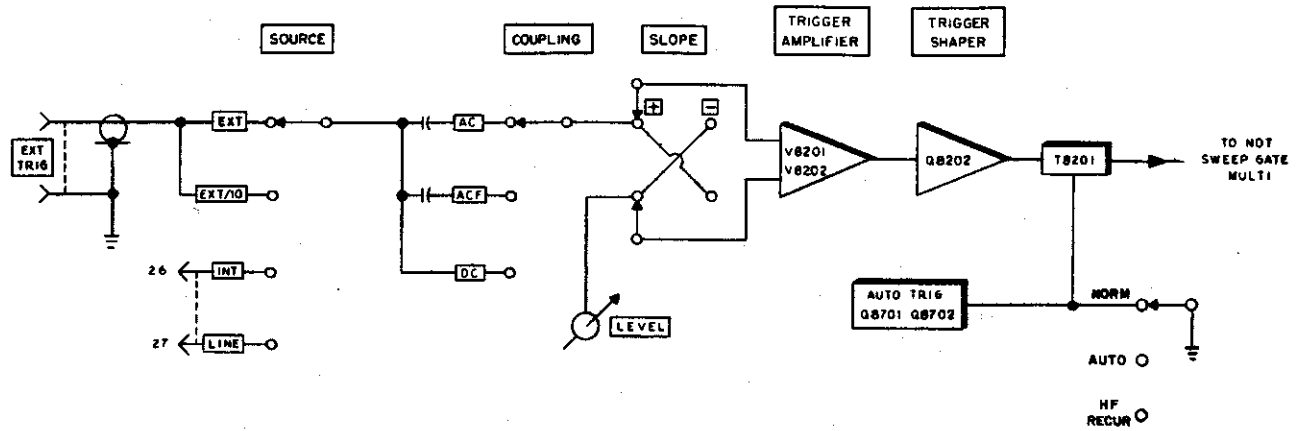

Figure 3-1a. NDT Trigger Circuit, Functional Block Diagram
- Figure 3-1a. NDT Trigger Circuit Functional Block Diagram
3-2. TRIGGER CIRCUIT DESCRIPTION (Figures 3-1a and 3-1b)